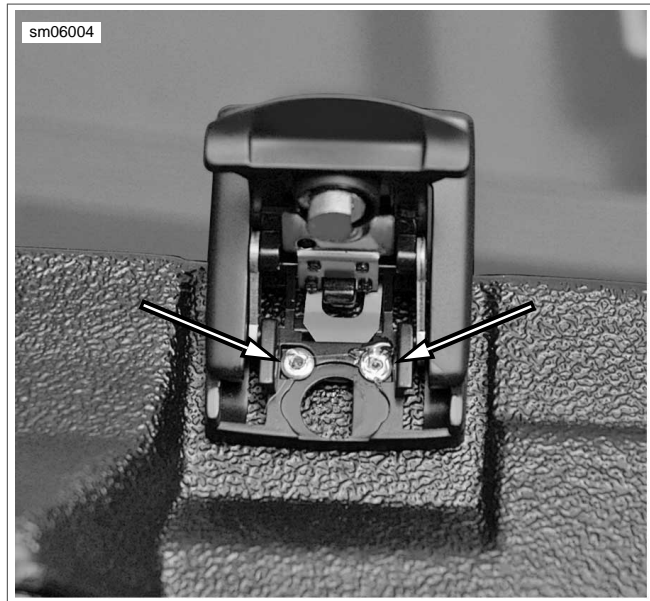

Figure 2-212. Side Case Latch Mechanism
- See Figure 2-212. In order to access the two rivets securing the latch to the side case it will be necessary to unlock the latch to expose the rivet heads.
2. See Figure 2-212. Install two **new** rivets into latch mechanism and tighten.